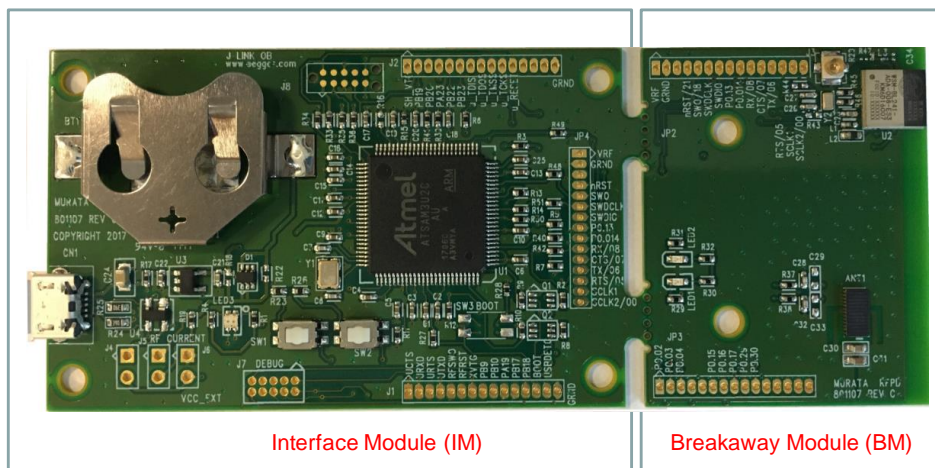

Figure 2 MBN52832 Development Kit Evaluation Board
The MBN52832Development Kit (MBN52832DK) supports the evaluation and development of smart IoT wireless networking products using BLE and NFC. It consists of an evaluation board (EVB), a quick start guide and this user guide. The EVB consists of two parts, the Interface Module (IM) and the Breakaway Module (BM), as shown in Figure 2. IM provides a dual USB-SWD and USB-UART interface to support firmware download and application software debugging and development; BM contains a MBN52832 module preconfigured with an onboard 2.4GHz antenna, LEDs, 32 KHz sleep clock and a NFC antenna. There is also an u.FL connector for RF evaluation. The BM can be separated from the IM and used as a standalone carrier board of MBN52832for product prototyping.